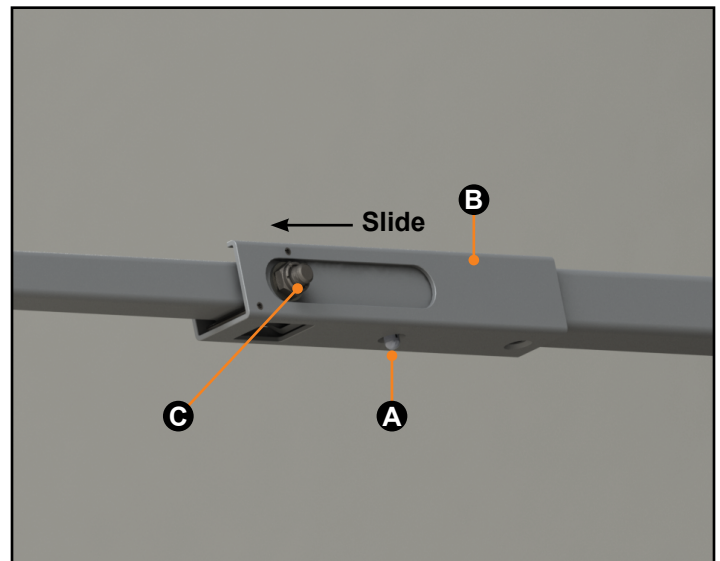

Fig.14
**NOTE:** Some awnings are equipped with a 2-position pitch arm (**Fig.14**). The 2-position arm can be set in the pitch position or snapped into a straight position by pushing the release button (**Fig.14A**) and sliding the sleeve (**Fig.14B**).